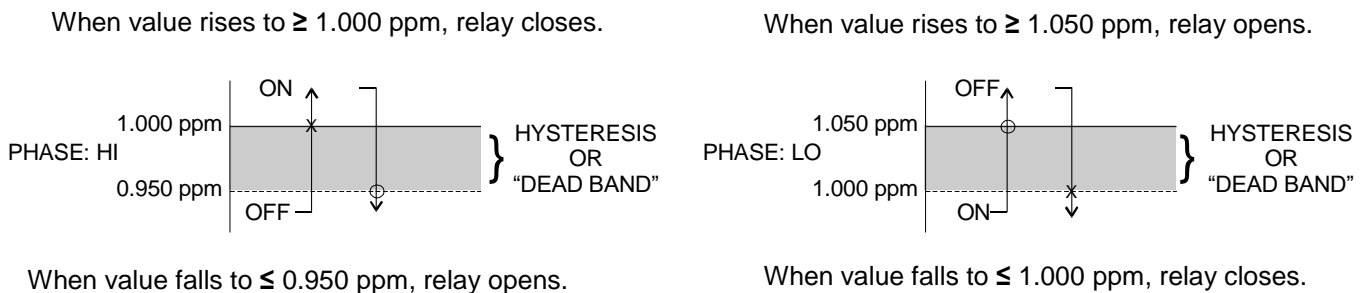

Figure 16 - Control Relay, Hysteresis & Phase Options
- *A Phasing** This function establishes the direction of the relay trip. When phase is HI, the relay operates in a direct mode. Therefore, the relay energizes and the LCD indicator illuminates when the oxygen value **exceeds** the setpoint. When the phase is LO, the relay energizes and the LCD indicator illuminates when the oxygen level drops **below** the setpoint. The failsafe setting does have an impact on this logic. The description here assumes the failsafe setting is OFF. Press ENTER to initiate user entry mode, and the entire value will flash. Use the UP arrow key to modify the desired value; selections include **HI** for direct operation or **LO** for reverse operation. Press ENTER to store the new value. See Figure 16 below for a visual description of a typical control relay application.